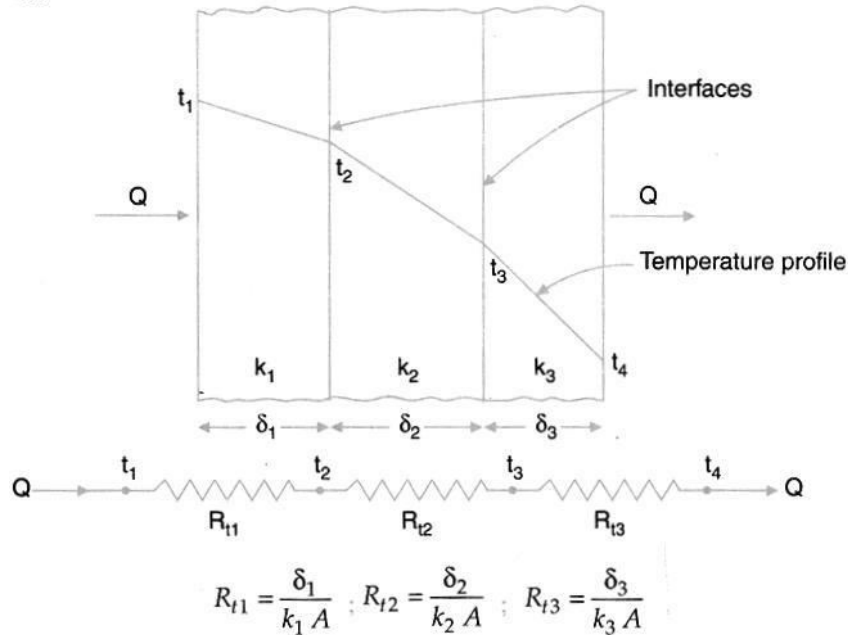

Fig. 2.7 Heat conduction through composite wall
- Figure 2.7 shows one such composite wall having three layers of different materials tightly fitted to one another.